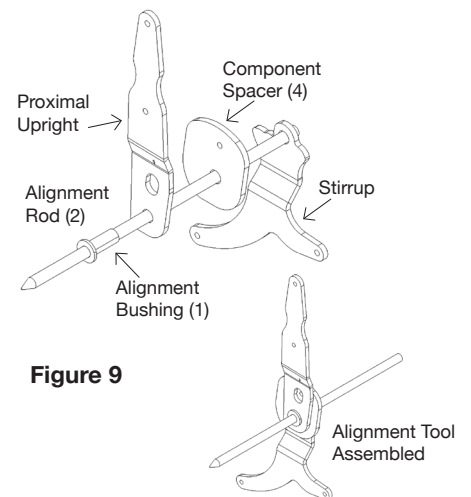

Figure 9
- To assemble the fabrication tool, first install the alignment bushing in the proximal upright by carefully pushing it through the pivot bushing hole from the mold-side of the proximal upright (**Figure 9**). The shoulder of the bushing will be closest to the mold when correctly installed.